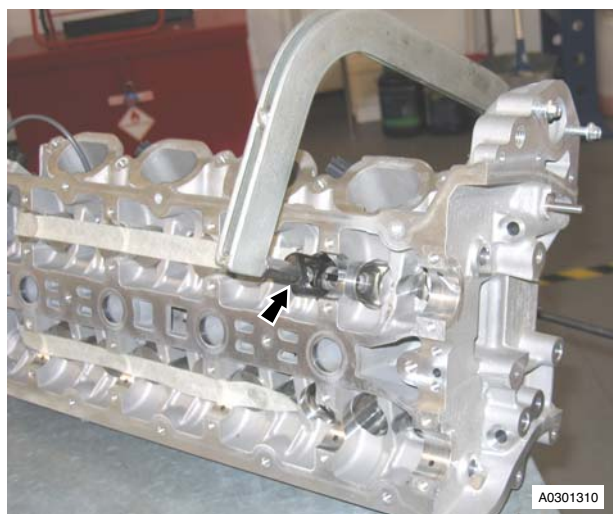

Figure 1
4. Position valve spring compressor, compress valve spring (see Figure 1).